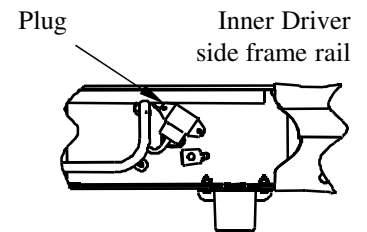
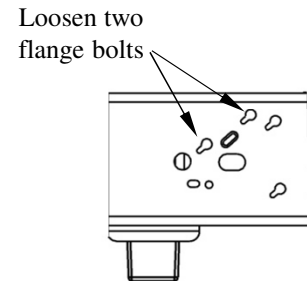

Figure 4a
Figure 4b
2. **On Pickups with OE Trailer Brake Controller:** Relocate the electrical plug that is located on the inside of the driver's side frame rail over the rear wheel (Figure 4a). The plug may be removed from the frame by loosening the two bolts on the outside of the frame and pushing the bolt heads through the key hole slots, as shown in Figure 4b. Attach the plug to the angle bracket supplied with the mounting kit. The bracket will be attached to the inside of the frame with a 5/8" bolt at a later installation step.